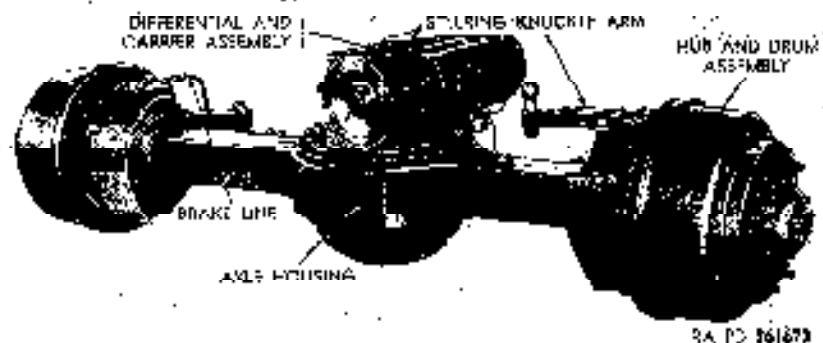

Figure 217. Front axle assembly.
a. Description. The front axle assembly (fig. 217) is a hypoid, double reduction, single speed type. It is secured to the underside of the front springs by a pair of clamp plates and U-bolts at each end. The differential and carrier assembly on top of the axle housing transmits power from the transfer to front axle propeller shaft (fig. 218) to the left and right drive shafts inside the housing whenever the over-running clutch on the transfer front output shaft is engaged (para. 206a). Universal joints installed at the outer end of each of the drive